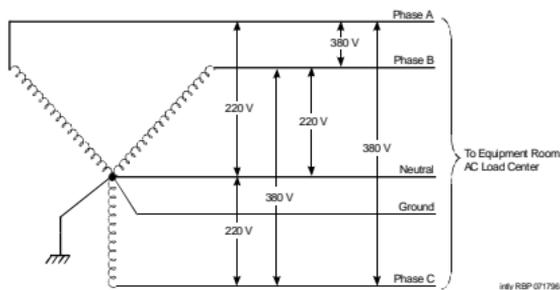

Figure 17. International 4-Wire, 220/380 VAC, 50 Hz Source
- International 4-wire, Y, 220/380 VAC. See Figure 17. This source has 3 hot wires, 1 neutral wire, and 1 ground wire.